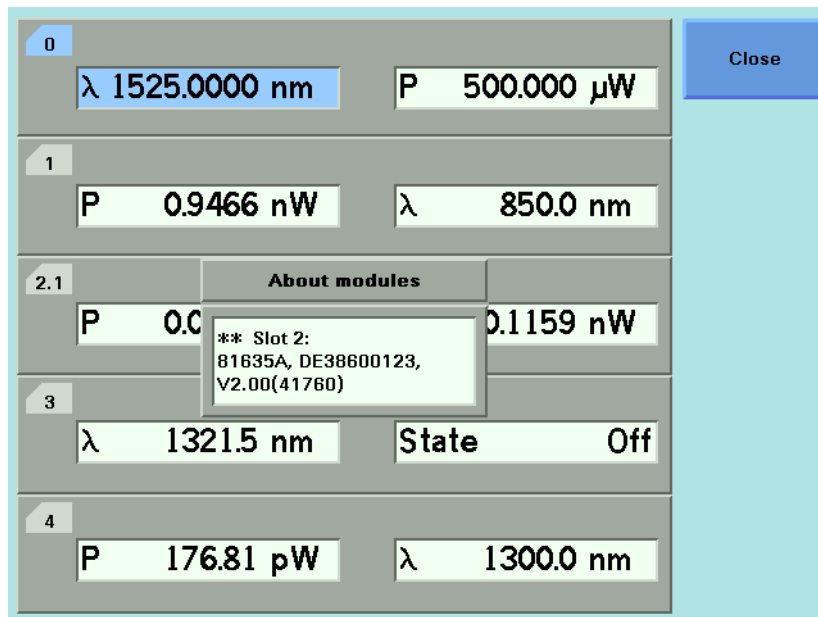

Figure 38 Viewing Information About a Module
- 4 The part number, serial number, and firmware revision of the chosen module are displayed, as shown in Figure 38 .